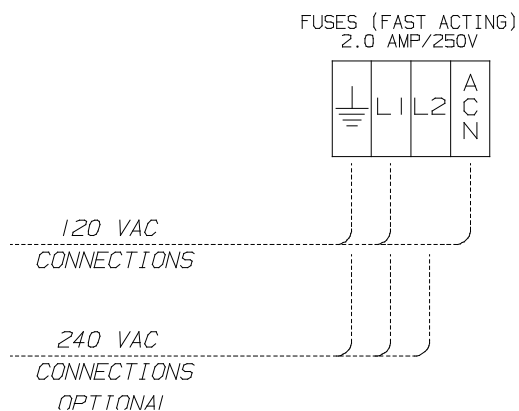

Figure B-4. Chemgard Relay Module Power Wiring Diagrams for 120 Volts and 240 Volts AC
4. Insert each stripped conductor into its proper location in the power cable connector (FIGURE B-4).